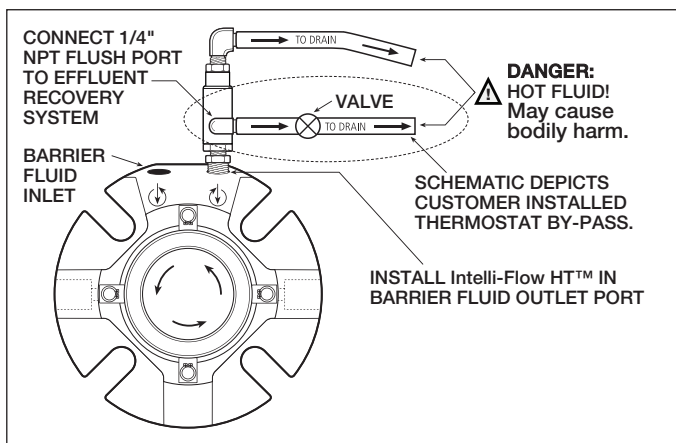

Figure 2 – Intelli-Flow HT™ Installation
3. Install the Intelli-Flow HT™ WATER SAVER in the outlet barrier fluid port of the Chesterton dual seal gland. **Reference Figure 2.**